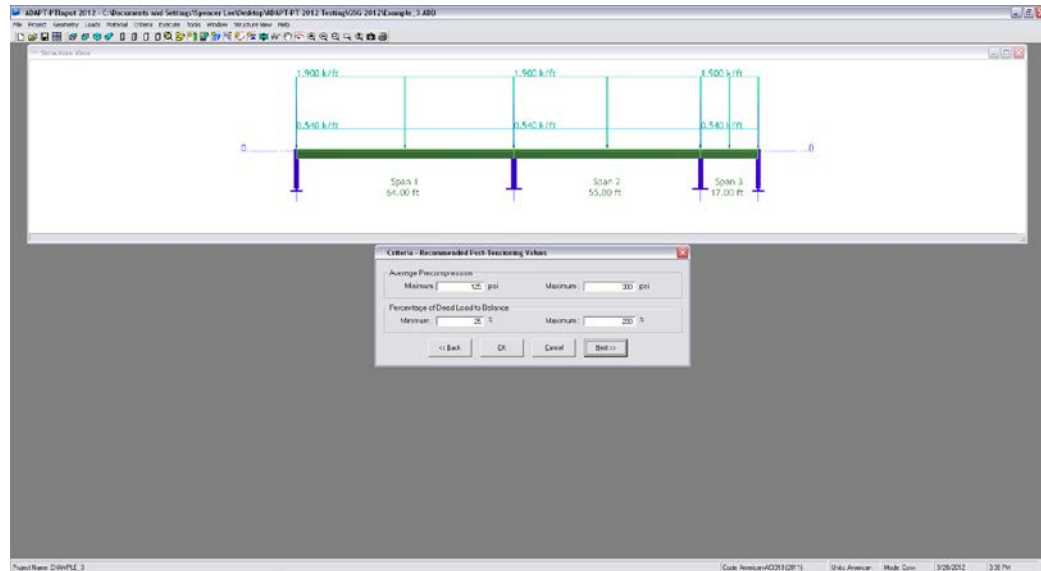

FIGURE 4.2-14
4.2.5.2 Enter The Recommended Post-Tensioning Values (Fig. 4.2-14)